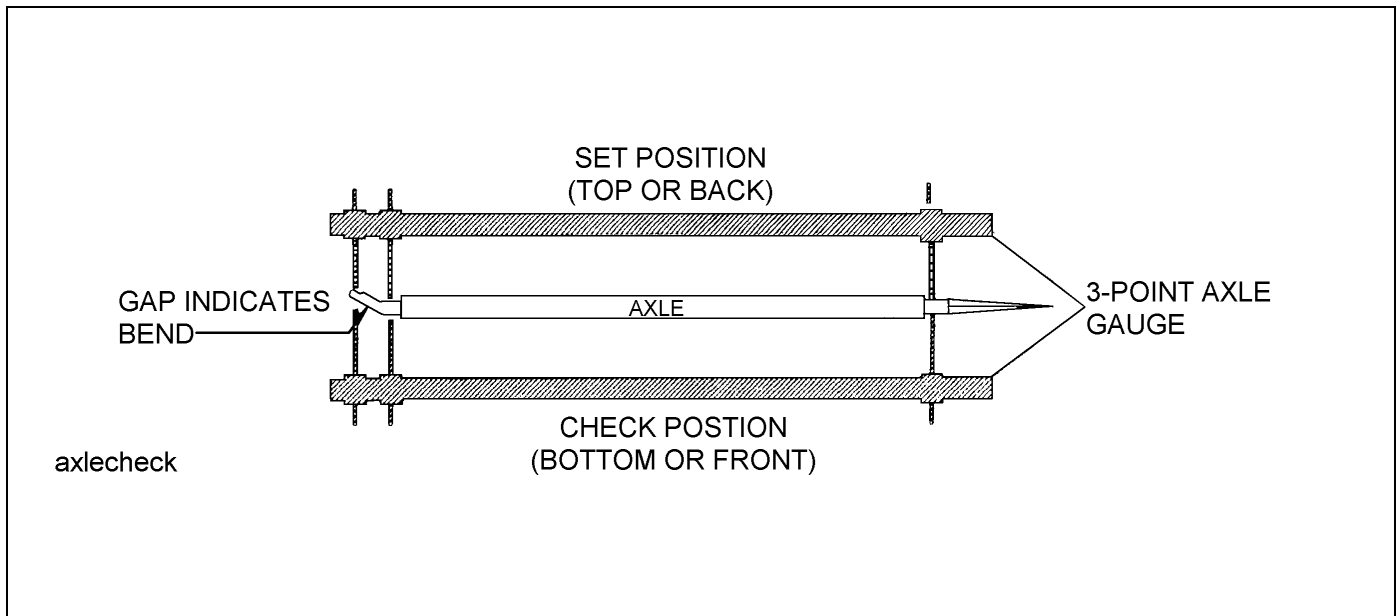

Figure 4-6: Checking Axle for Bend
2. Place a 3-point axle gauge against the front side of the axle, and adjust each axle gauge point to the axle. (Double point end against the inner and outer wheel bearing surfaces of the spindle being checked and the other point on the inner bearing surface on the other spindle.)(See Figure 4-6.)
3. Move the axle gauge and place against the back side of the axle. If either of the points of double point end fails to touch the axle surface, a bent spindle is evident. A point gap of .015" or more is considered excessive tire “toe” and the axle must be replaced (See Figure 4-6.)